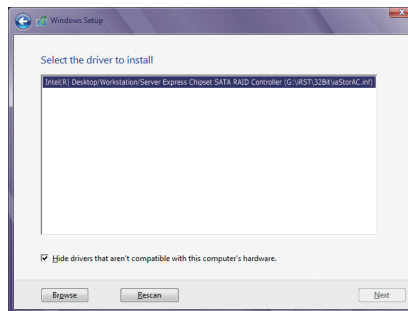

Figure 1
When a screen as shown in Figure 1 appears, select **Intel(R) Desktop/Workstation/Server Express Chipset SATA RAID Controller (I:IRST\32Bit\UpdStrAC.inf)** and click **Next** to load the driver and continue the OS installation.